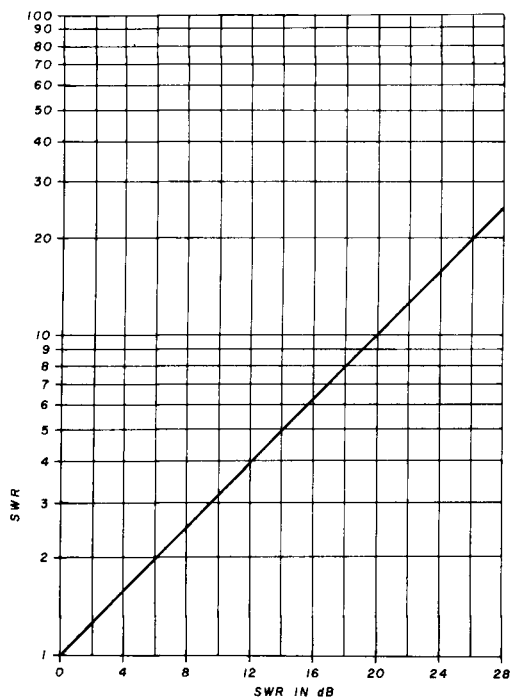

fig. 4. Swr vs swr in dB.
6. Swr in dB can be converted to swr by reading the value from the scale on the meter which corresponds to the dB value of swr. This relationship is also plotted in **fig. 4**.
9. The swr, in dB, is equal to the variable attenuator setting minus the setting used in **step 1**. Swr in dB can be converted to swr by the following expression, or from the curve of **fig. 4**.